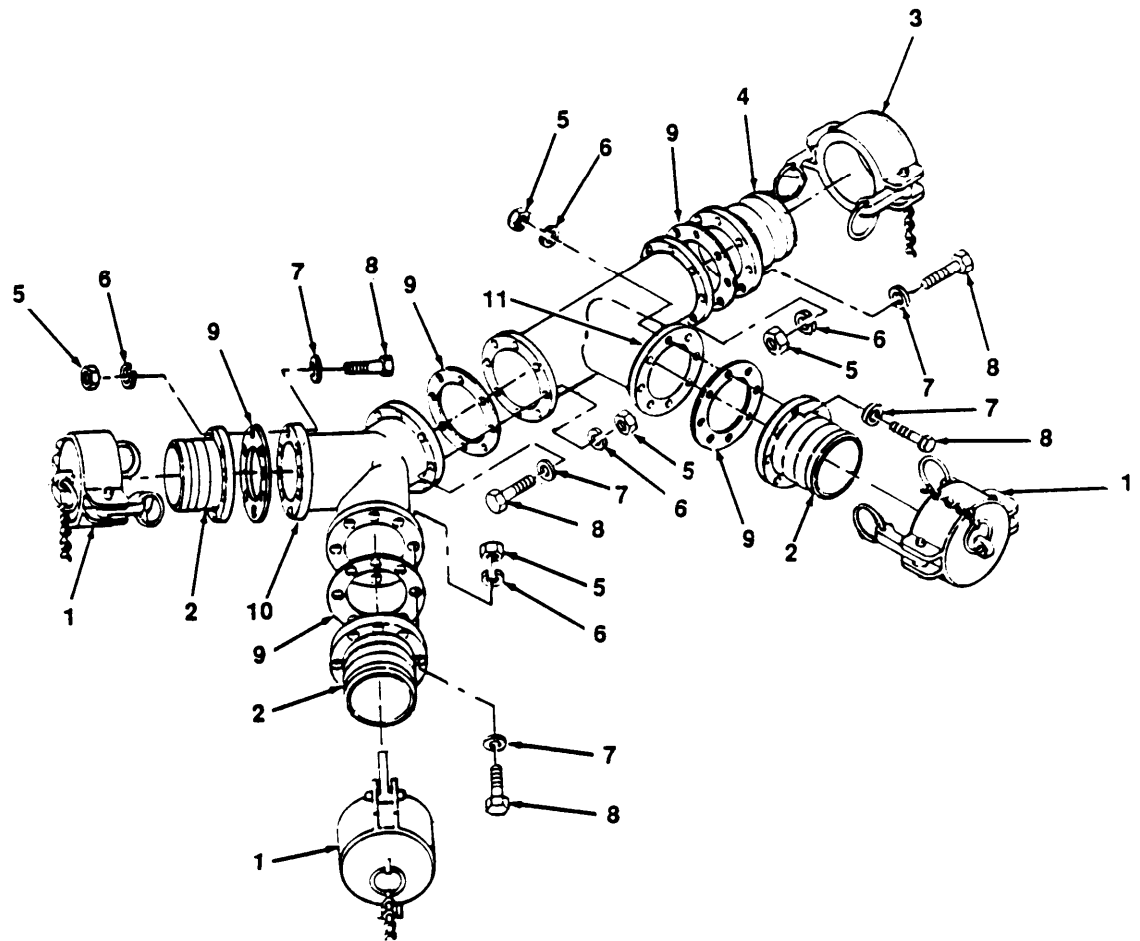

Figure 4-4. Wye and Tee Assembly Repair.
- (1) *Wye and tee assembly* (figure 4-4).
- (a) Remove caps (1) from adapters (2).
- (b) Remove cap (3) from coupling (4).
- (c) Remove nuts (5), lockwashers (6), flat washers (7) and cap screws (8) to remove adapters (2) and coupling (4).
- (d) Remove cork gaskets (9) from wye body (10) and tee body (11). Remove old sealing compound from flanges on wye body, tee body, adapters (2) and coupling (4).
- (f) Install wye body (10), tee body (11), adapters (2) and coupling (4) using cap screws (8), flat washers (7), lockwashers (6) and nuts (5).